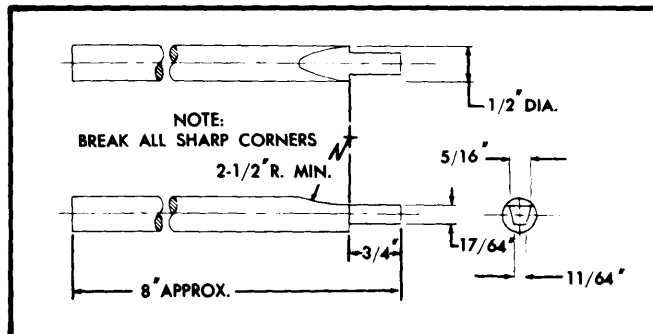

Fig. 4 Upper Rear Main Bearing Oil Seal Installation Tool
1) Remove oil pan and oil pump. Remove rear main bearing cap and use suitable tool made from brass bar stock to pack upper seal. See Fig. 4. Insert tool against one end of oil seal in block and drive seal gently into groove until tool bottoms. Remove tool and repeat at other end of seal in cylinder block. Clean block and bearing cap parting line thoroughly.